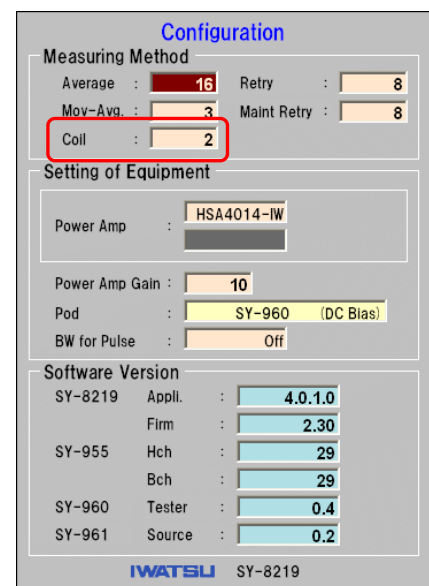

Fig. 4-19 Configuration screen
- (1) Press  to display the Configuration screen. (See Fig. 4-19)
- (2) Move the edit cursor to Coil of Measuring Method, and then press .
- (3) Select a coil method and then press  to determine the selection.
- (4) Press  or  to close the Configuration screen.